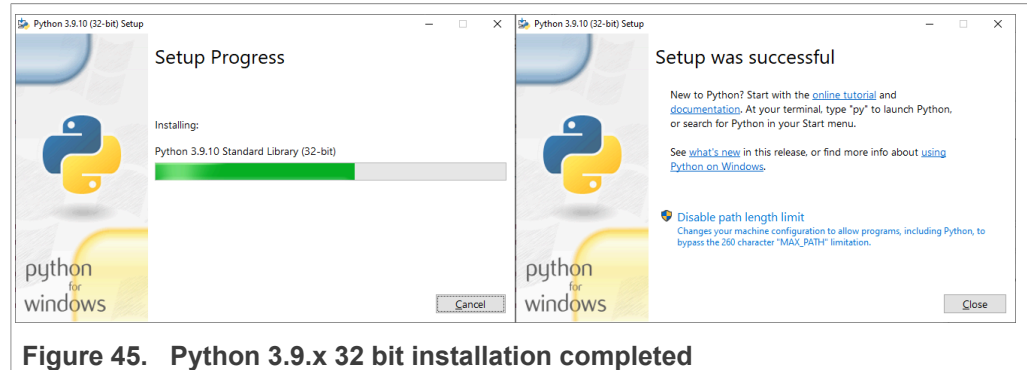

Figure 45. Python 3.9.x 32 bit installation completed
3. Wait a few seconds until the installation is completed as indicated in Figure 45